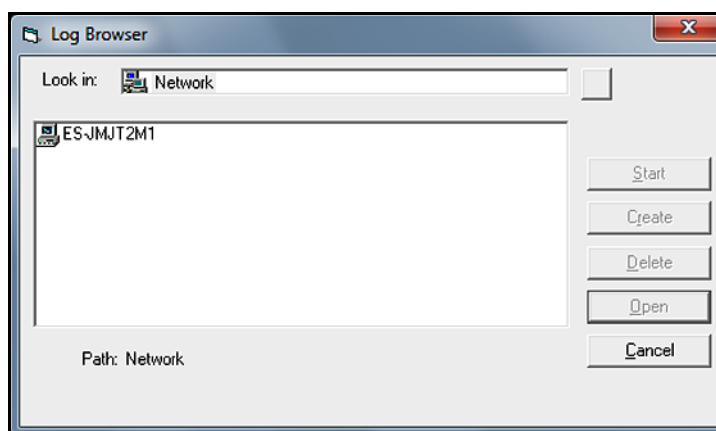

Figure 80: Computer Selection
- Click “Log Browser” option to open the dialog box shown in *Figure 80* below.